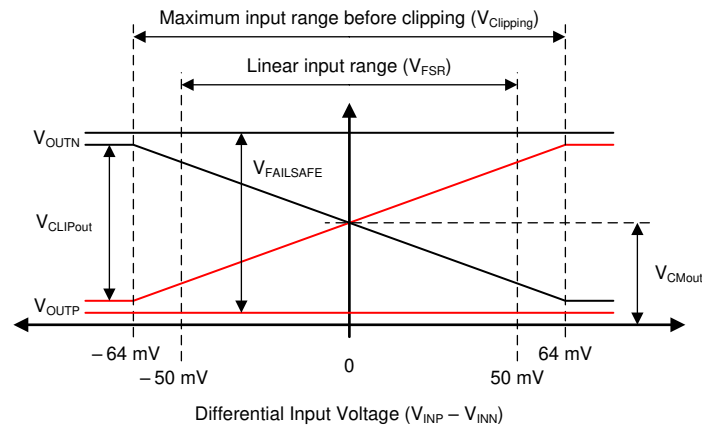

Figure 7-2. Output Behavior of the AMC3302
The AMC3302 offers a differential analog output comprised of the OOUTP and OOUTN pins. For differential input voltages ($V_{INP} - V_{INN}$) in the range from -50 mV to 50 mV, the device provides a linear response with a nominal gain of 41. For example, for a differential input voltage of 50 mV, the differential output voltage ($V_{OOUTP} - V_{OOUTN}$) is 2.05 V. At zero input (INP shorted to INN), both pins output the same common-mode output voltage V_{CMout} , as specified in the Electrical Characteristics table. For absolute differential input voltages greater than 50 mV but less than 64 mV, the differential output voltage continues to increase in magnitude but with reduced linearity performance. The outputs saturate at a differential output voltage of $V_{CLIPout}$, as shown in Figure 7-2, if the differential input voltage exceeds the $V_{Clipping}$ value.
The AMC3302 provides a failsafe output that simplifies diagnostics on system level. Figure 7-2 shows the failsafe mode, in which the AMC3302 outputs a negative differential output voltage that does not occur under normal operating conditions. The failsafe output is active in two cases:
- The low-side does not receive data from the high-side (for example, because of a loss of power on the high side). In this case, the amplifier outputs are driven to the V_{FAILSAFE} value, see Figure 7-2.
- The high-side DC/DC output voltage (DCDC_OUT) or the high-side LDO output voltage (HLDO_OUT) drop below their respective undervoltage detection thresholds (brown-out). In this case, the low-side may still receive data from the high-side but the data may not be valid. The amplifier outputs are driven to V_{FAILSAFE} value, see Figure 7-2.